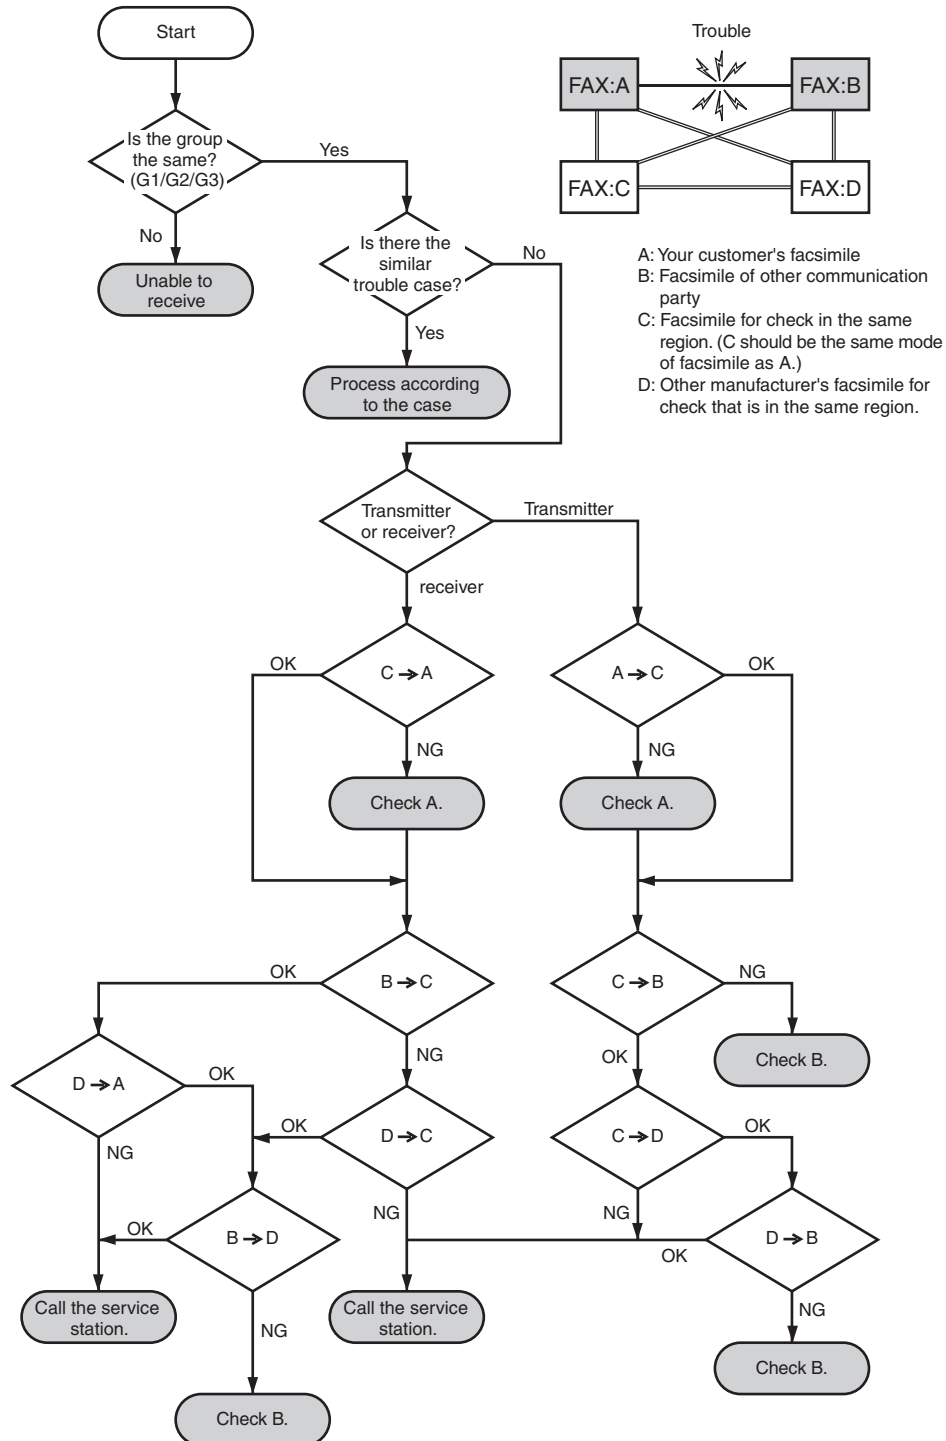

Figure 4-9 Flowchart for Processing Communication Troubles with other manufacturer's facsimile
- (2) Test communication according to flowchart procedures appearing on the next page.
- (3) Finally, process over by judging systematically all the data.
If the other party's facsimile is that of another manufacturer and there is nothing wrong with your customer's machine, it is recommended that you ask your customer to contact the facsimile user of the other party, so that the other party's facsimile is checked by the dealer. "Call the service station" in the flowchart (Fig.4-9) means that problems may occur with regard to the communication compatibility of facsimile, consult the matter with the staff in charge at the service station. To quicken the resolving of the problem, report the information listed in (1) above.